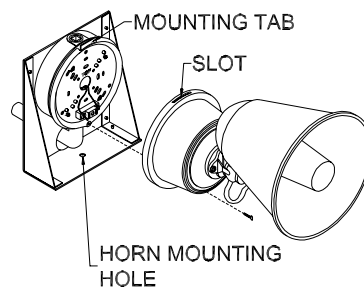

Figure 16 Horn Assembly and Mounting
17. Fasten the horn assembly to the scoreboard using the mounting bolts from the scoreboard as seen in figure 16.